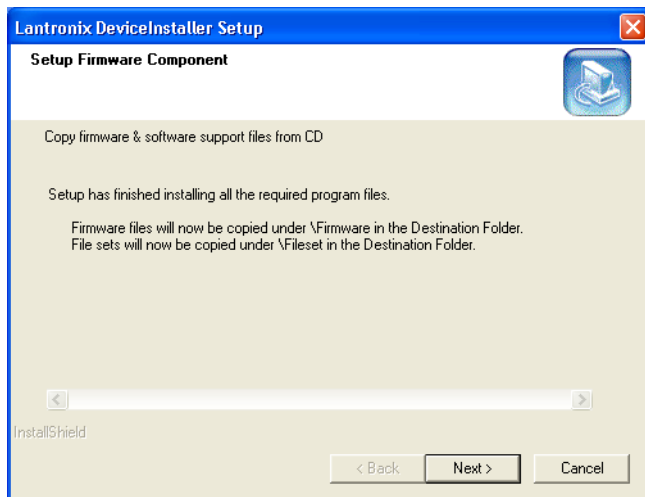

Figure 16: Setup Firmware Component
15. When the installation wizard has finished copying all files to your host computer, the Setup Firmware Component window appears (see Figure 16 on page 14).